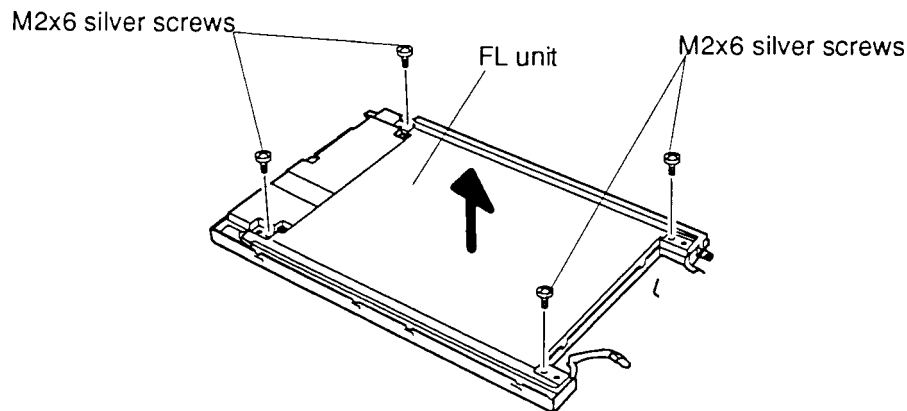

Figure 4-52 Removing the FL unit (T4700CT/T4800CT)
To remove the T4700CT/T4800CT's FL unit, follow the steps below and refer to figure 4-52:
3. Place the **FL unit** face down and remove the **four M2x6 silver screws** (figure 4-52).
4. Lift the **FL unit** out of the frame (figure 4-52).
1. Replace the **FL unit** in the frame and secure it with the **four M2x6 silver screws** (figure 4-52).